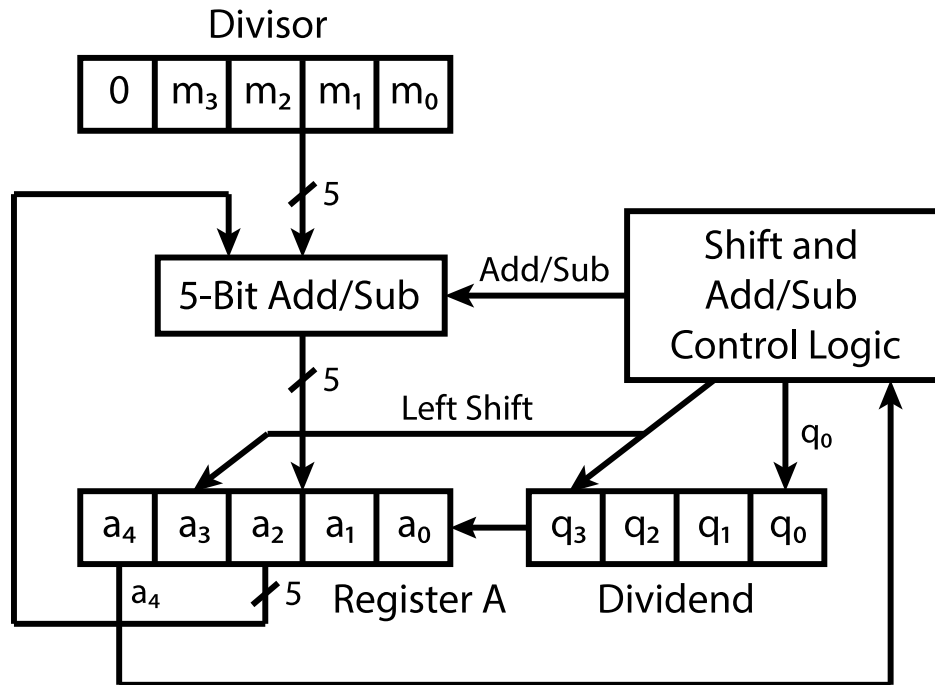

Figure 6: Block diagram of restoring divider.
significant bit or MSB) is shifted into the least significant bit (LSB) of *Register A* as shown in Figure 6.
1. Draw a schematic for the datapath of your circuit. It will be similar to Figure 6. You should show how you will initialize the registers, where the outputs are taken, and include all the control signals that you require. Do not forget the clock and resets.